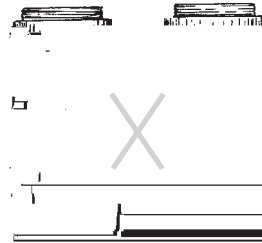

Fig. 10.4
- Do not exchange objectives of two microscopes unless you are certain that their mechanical tube length specifications are identical (Fig. 10.4).